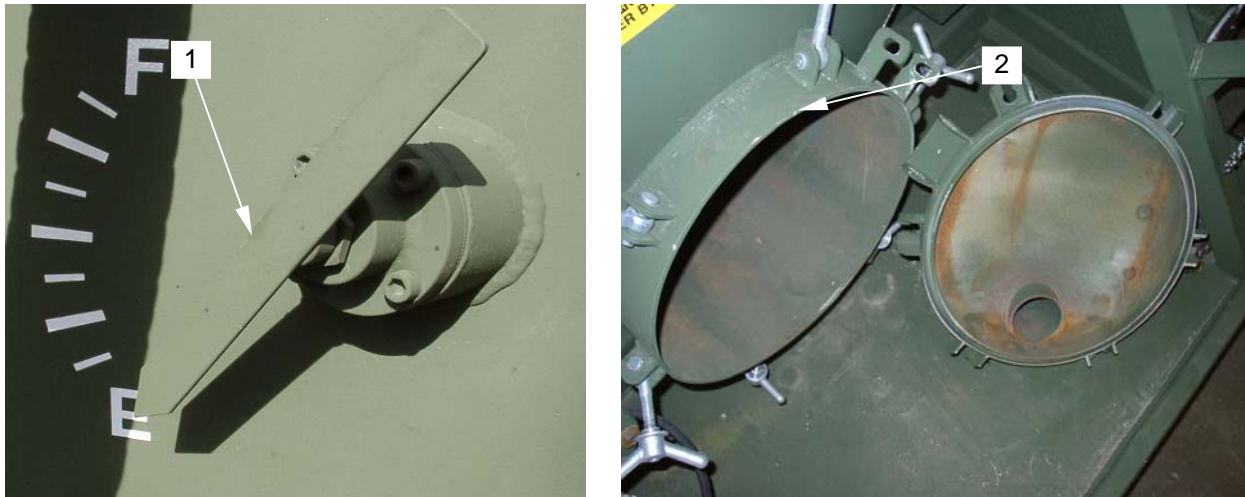

Figure 7. Float Level Indicator and Manway
- h. Outside the tank, position the tank level indicator to the 'empty' position (**figure 7, item 1**).
- j. Lift the float ball (**figure 5, item 3**) to check for proper movement of the float level indicator (**figure 7, item 1**).
- k. Exit tank through manway (**figure 7, item 2**).